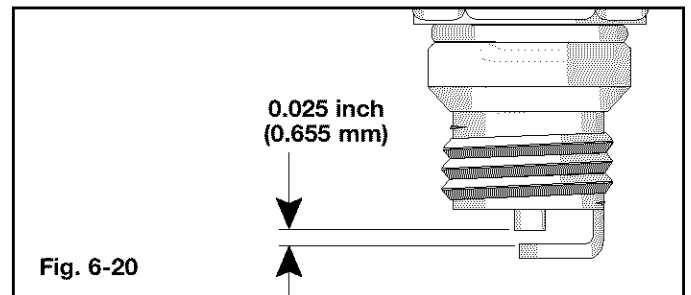

Fig. 6-20
3. Replace cracked, fouled or dirty spark plug. Set the air gap at 0.025 inch (0.655 mm) using a feeler gauge (Fig. 6-20).